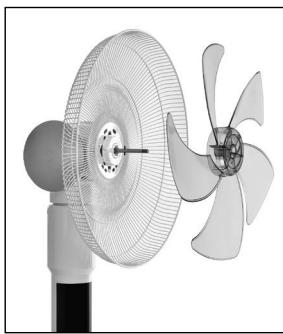

Fig. 6
8. Now, push the rotor blade onto the motor shaft as well. The 2 pins on the motor shaft have to glide into the two grooves in the rotor blade base (*fig. 6*). Fasten the rotor blade with the rotor blade nut (2) by turning it counter clockwise towards "Tighten". The rotor blade should be able to turn freely afterwards. (*Fig. 7*)